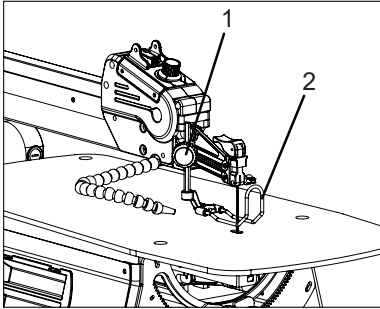

FIGURE 2
1. Loosen the blade guard knob (Fig. 2, 1) and move the blade guard (2) all the way up.